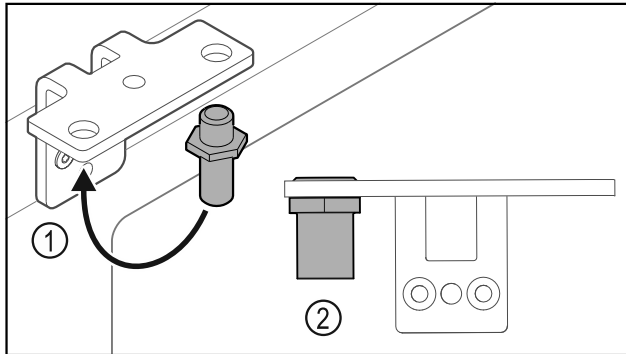

Fig. 20
- ▶ Put the pin back into the hinge Fig. 20 (1).
- ▶ Tighten the pin Fig. 20 (2) to a **torque of 12 Nm**.